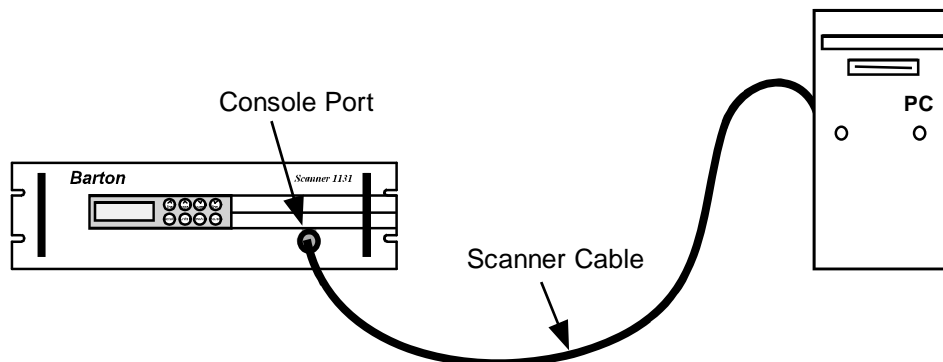

Figure E.1—PC to console connection for flashing firmware
1. Connect the PC to the Scanner 1141’s console port (Figure E.1).